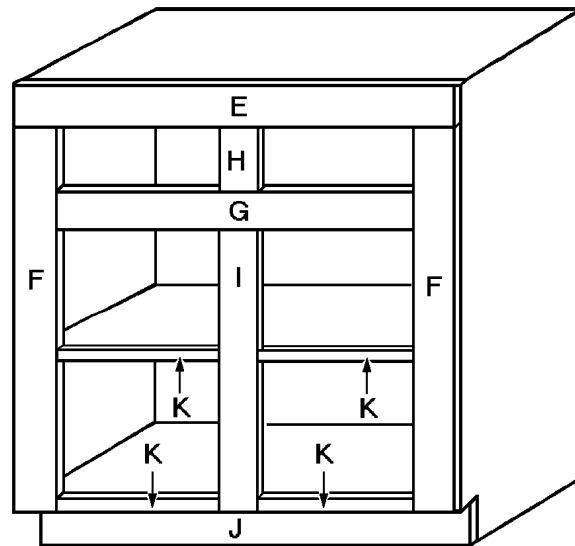

Figure 4
The front of the cabinet consists of rails (horizontal members) and stiles (vertical members). These members fulfill two functions: they support the cabinet doors, and they form the finished front. A diagram of their placement is shown in *Figure 4*. It is very important that you install each of the stiles and rails so that they are all exactly square, or your drawers and cabinet doors will not fit properly.
1. Cut one 35-1/2"-long top rail (E) from 1 x 4 pine. Using glue and two finishing nails on each end, attach the top rail (E) flush with the top edges of the cabinet sides (A), as shown in *Figure 4*.
2. Cut two side stiles (F) from 1 x 4 pine, each 30-1/4" long, and attach them to the cabinet sides (A) below the top rail (E). Use glue and 3-penny finishing nails, spacing the nails about 6 inches apart. As shown in *Figure 4*, the stiles should be flush with the outer edges.
3. Cut one 28-1/2"-long center rail (G) from 1 x 4 pine, and attach it 4 inches below the top rail (E), between the two side stiles (F). After applying glue, toenail the center rail (G) into the side stiles (F) using two finishing nails on each end.
4. From 1 x 4 pine, cut one 4"—long upper center stile (H) and one 22-3/4"—long lower center stile (I).
5. Attach the upper center stile (H) between the top rail (E) and the center rail (G), as shown in *Figure 4*. Apply glue, and toenail the center stile (H) into the top rail (E) and the center rail (G), placing two finishing nails at each end. The lower center stile (I) is attached to each of the shelves (C). Make certain that both of the shelves (C) are perfectly level in the center. Use glue and two finishing nails to attach the lower center stile (I) to each of the shelves (C). Glue and toenail the lower center stile (I) to the center rail (G).
6. Cut a 35-1/2" length of 1 x 4 pine. Rip the length to 3 inches in width, and attach the resulting bottom base piece (J) across the bottom edge of the assembled cabinet so that it covers the raw, bottom edges of the cabinet sides (A), as shown in *Figure 4*. To secure the attachment, first glue all of the exposed joints. Then use two 3-penny finishing nails to toenail the bottom base piece (J) to the lower center stile (H). Next, with two finishing nails on each end, attach the bottom base piece (J) to the edges of the cabinet sides (A). Finally, nail through the lower cabinet shelf (C) into the bottom base piece with finishing nails placed about 6 inches apart.
7. Cut four shelf trim pieces (K) from 1 x pine, each 12-1/2" long. Use glue and finishing nails placed every 6 inches to attach the shelf trim (K) to the exposed fronts of each of the shelves (C) between the stiles (F and I).